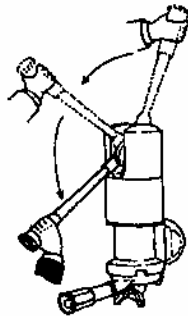

Figure 1
4. Pull the lever of the group (Figure 1), when it reaches the lowest position the first drops of coffee should appear at the filter outlet. Gently release the lever so the coffee is dispensed. If more coffee is desired pull the lever once again.